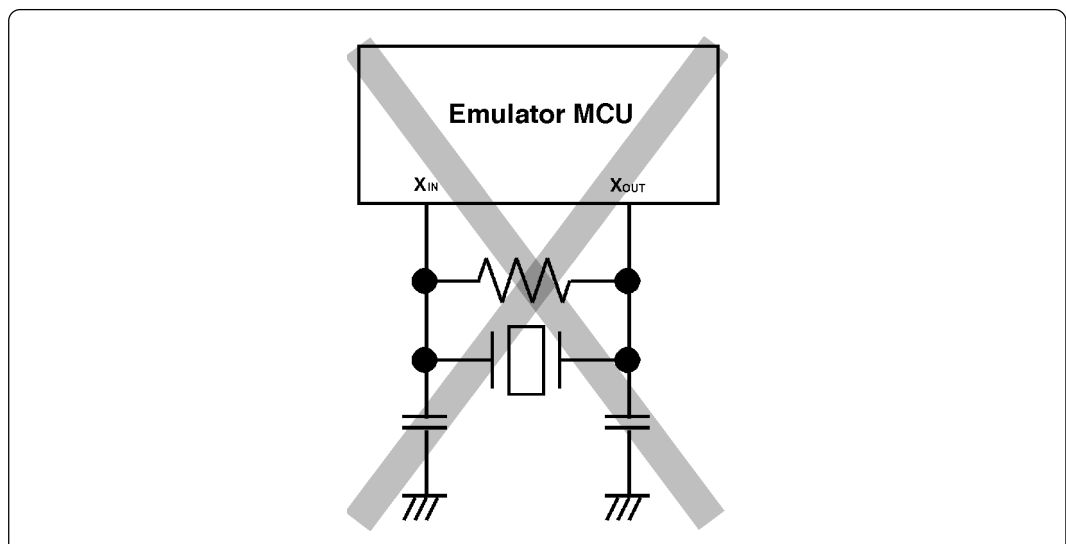

Figure 3.11 Circuit in which oscillation does not occur (same for X_{CIN}-X_{COU}T)
- Make note that in the oscillator circuit shown in Figure 3.11 where a resonator is connected between pins X_{IN} and X_{OUT}, oscillation does not occur because a flexible cable, buffer IC and other devices are used between the evaluation MCU and the target system.
- Make note that in the oscillator circuit shown in Figure 3.11 where a resonator is connected between pins X_{CIN} and X_{COU}T, oscillation does not occur because a flexible cable, buffer IC and other devices are used between the evaluation MCU and the target system.